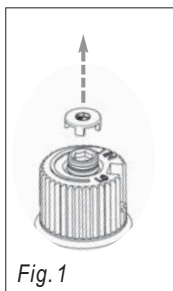

Fig. 1
14) Remove the black protection cap by hand from the high-low knob (Fig.1).